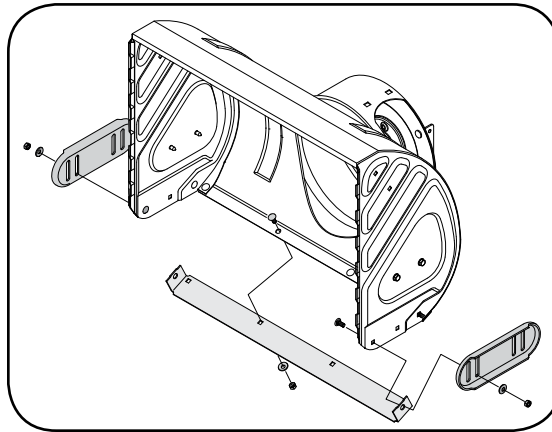

Figure 20
1. Remove four carriage bolts, hex nuts, and washers which attach the two skid shoes to the snow thrower on each side of the housing. See Figure 20.
1. After removing both skid shoes, remove the four carriage bolts, hex nuts, and washers which secure the shave plate to the snow thrower housing. See Figure 20.